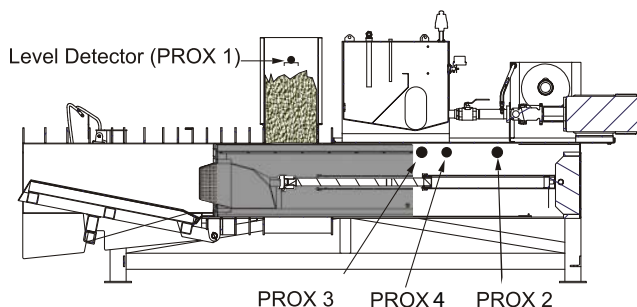

Figure 24 - Product Piling On Top Of Plunger. Plunger In Home Position (fully extended).
1. **START-UP** SYSTEM CNTRL switch in START extends the plunger. AUTO PLUG switch in AUTO raises the restriction rail. Product falling through the in-feed chute falls onto the plunger top surface (see Figure 24).
NOTE: Any time the system is stopped with the EMERG STOP or the SYSTEM CNTRL Switch, when re-started the plunger will return to home position (see Figure 24 page 11).